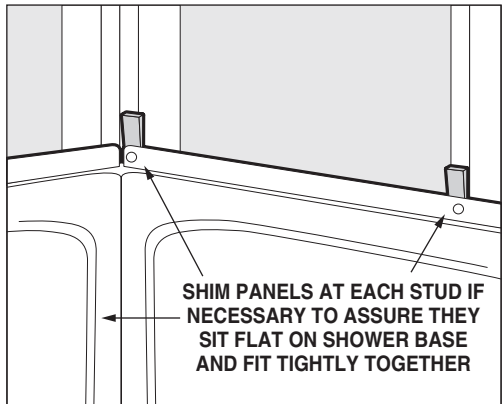

FIGURE 4. You can shim against the stud.
- If the studs and back panel do not contact correctly you will need to shim for support. (Fig. 4)
- If necessary, shim between wall panels and studs to provide a tight fit between the back and side panels. (Fig. 4)